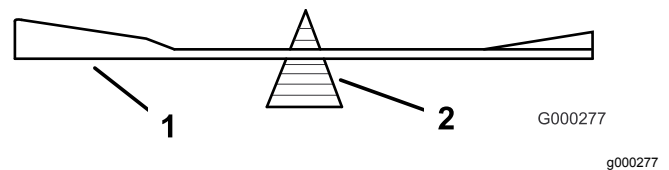

Figure 99
2. Check the balance of the blade by putting it on a blade balancer (Figure 99). If the blade stays in a horizontal position, the blade is balanced and can be used. If the blade is not balanced, file some metal off the end of the sail area only (Figure 100). Repeat this procedure until the blade is balanced.